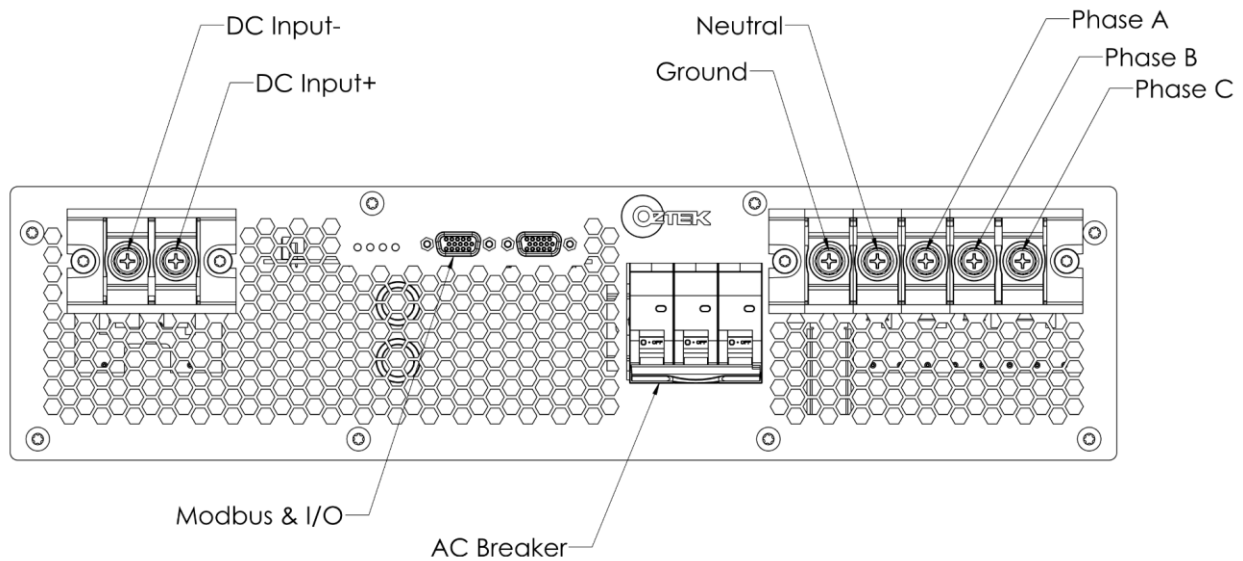

Figure 1 - Front Panel Interface
- Figure 1 - Front Panel Interface 2
The OZpcs-RS40 hardware has been designed to easily parallel multiple units. All interfaces are provided on the front panel, as shown below in Figure 1.